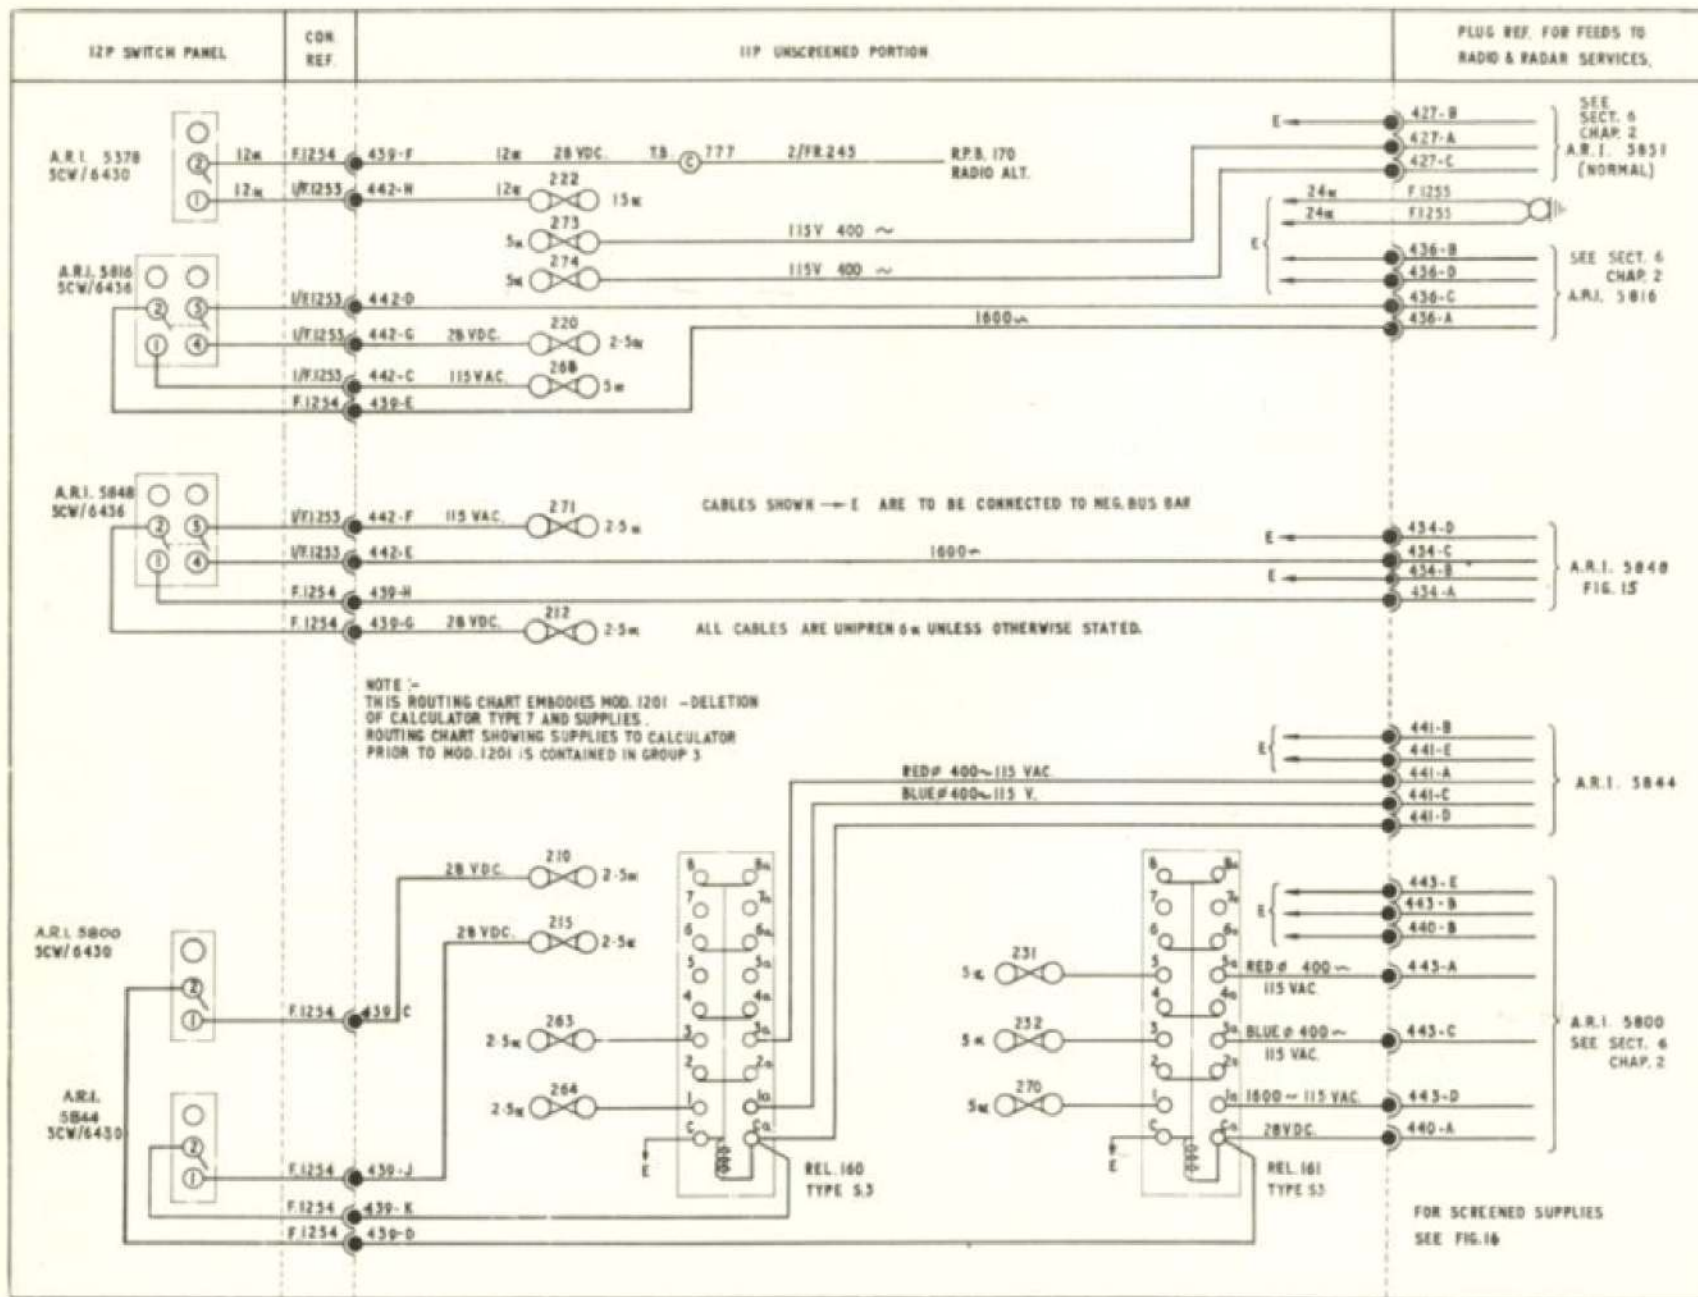
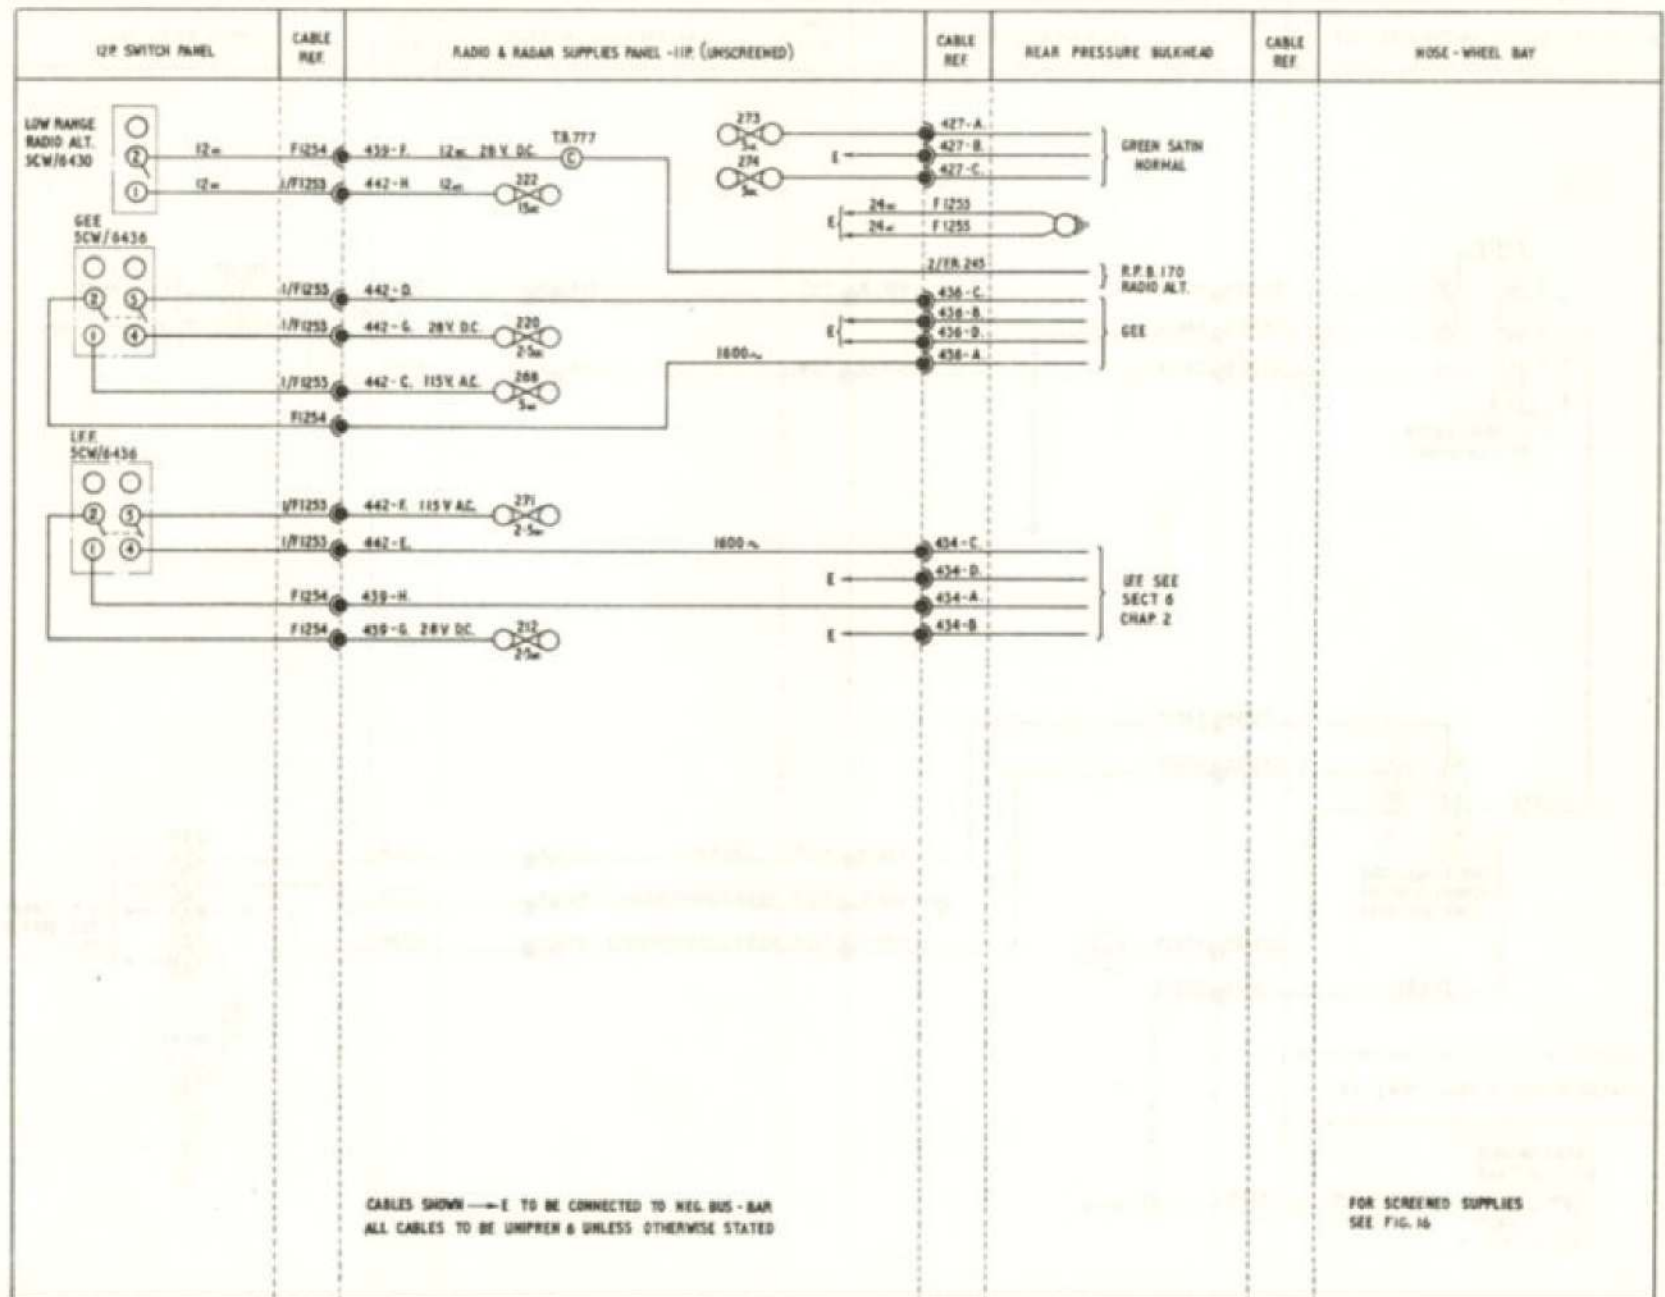

Fig. 13 Unscreened radio supplies - Mk.1 aircraft only
Fig. 13A Unscreened radio supplies - Mk. IA aircraft only
42. Mod.613, which introduces E.C.M., also deletes A.R.I.5800 and A.R.I.5844. Accordingly, the associated supplies from fuses 210, 215, 263, 264, 231, 232 and 270 (Fig.13) are deleted, (but see para.44) and the two control switches on the a.c. supplies switch panel are blanked off. The revised supply circuits are shown in fig.13A.